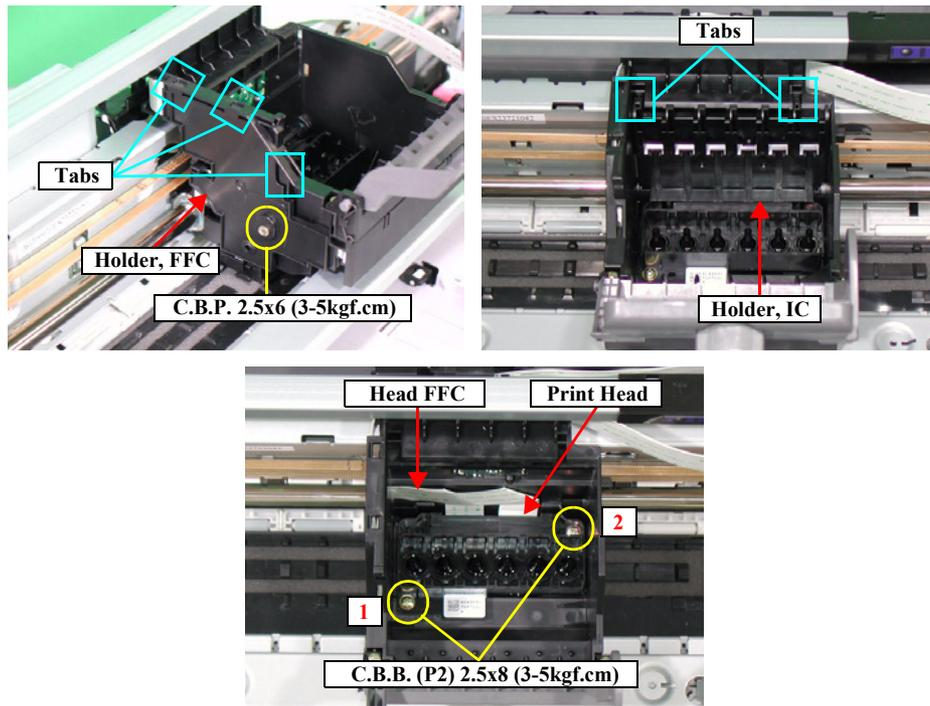

Figure 2-12. Print Head Removal
- Secure the Print Head with two screws following the order of Figure2-12.